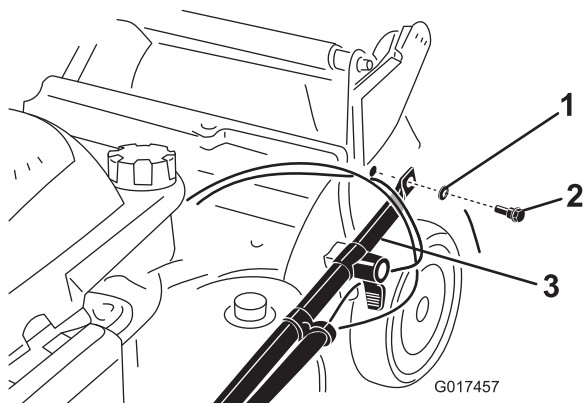

Figure 4
2. Attach the handle ends to the machine housing with 2 washers and 2 handle bolts (Figure 4), **but do not tighten the handle bolts**.
Important: Route the cables to the *outside* of the handle (Figure 4).